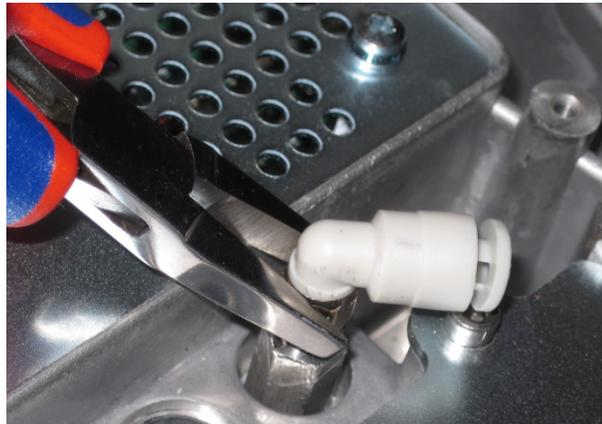

Figure 88 Tighten the purge port right-angled connector
8. Screw one of the right-angled connectors supplied into the inlet port and tighten using the pliers (Figure 88).